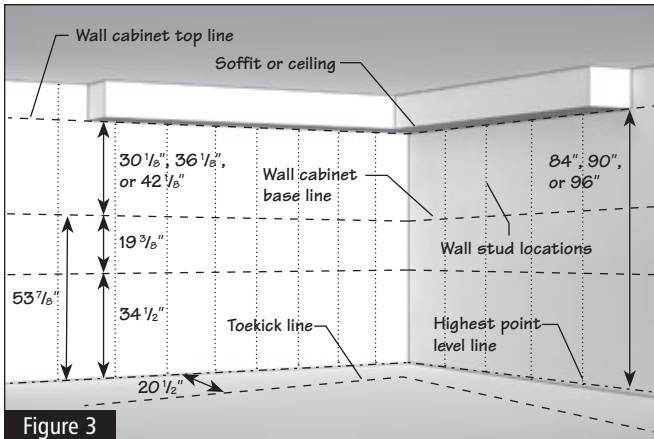

Figure 3
1.4 Now measure up from the wall cabinet base line the same distance as the height of your cabinets ($30\frac{1}{8}"$, $36\frac{1}{8}"$ or $42\frac{1}{8}"$). This will be the top line for the wall cabinets. Any non-standard height wall cabinets need to line up with this top line as well. (Figure 3)